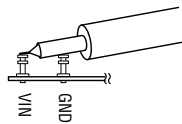

Figure 2. Measuring Input or Output Ripple
**NOTE:** When measuring the input or output voltage ripple, care must be taken to avoid a long ground lead on the oscilloscope probe. Measure the input or output voltage ripple by touching the probe tip directly across the VIN or VOUT and GND terminals. See Figure 2 for proper scope probe technique.